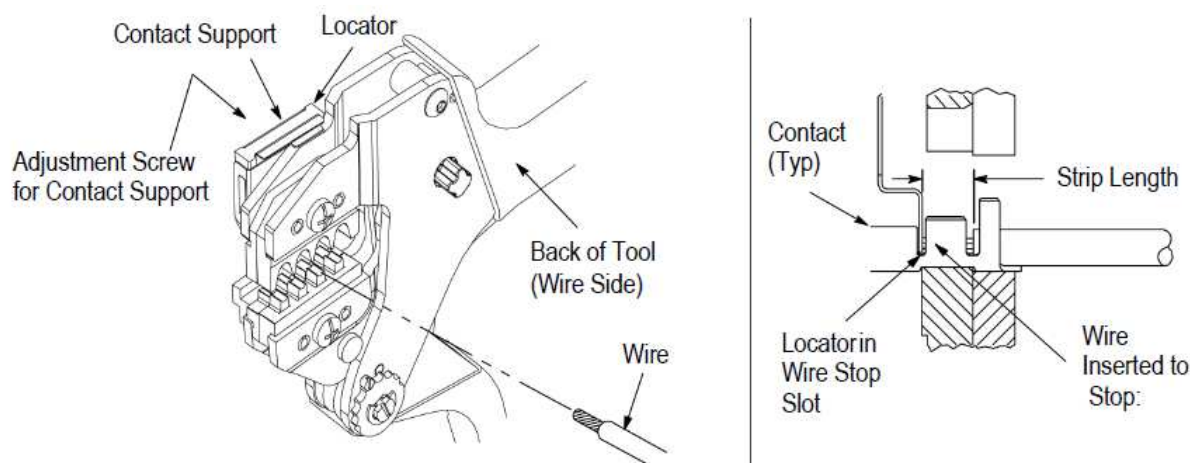

Figure 2
### 4. CONTACT SUPPORT ADJUSTMENT [SEE FIGURE 2]
Refer to the table in Figure 1 and select wire of the specified size and insulation diameter. Strip the wire to the length indicated in Figure 1, taking care not to nick or cut wire strands. Select an applicable contact and identify the appropriate crimp section according to the wire size markings on the tool. Refer to Figure 2 and proceed as follows:
3. Position the contact so that the mating end of the contact is on the locator side of the tool, and so that the open “U” of the wire and insulation barrels must face the top of the tool. Place the contact up into the nest so that the movable locator drops into the slot in the contact. Refer to Figure 2. Butt the front end of the wire barrel against the movable locator.